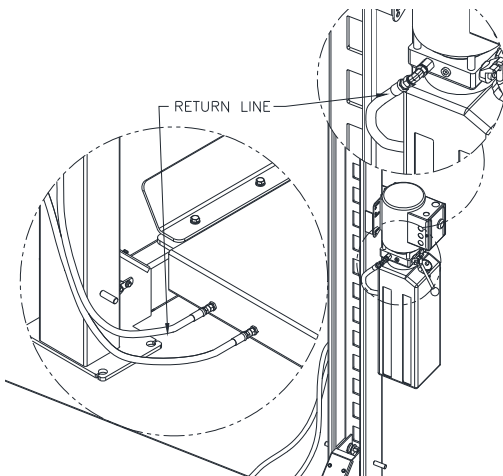

Fig 17 – Return Line, Front
- 33) Remove the 3/8-18 NPT plug on the side of the power unit and attach the 90-degree elbow at a slightly downward angle. Secure the hose to the bulkhead shown in **Fig 17**.